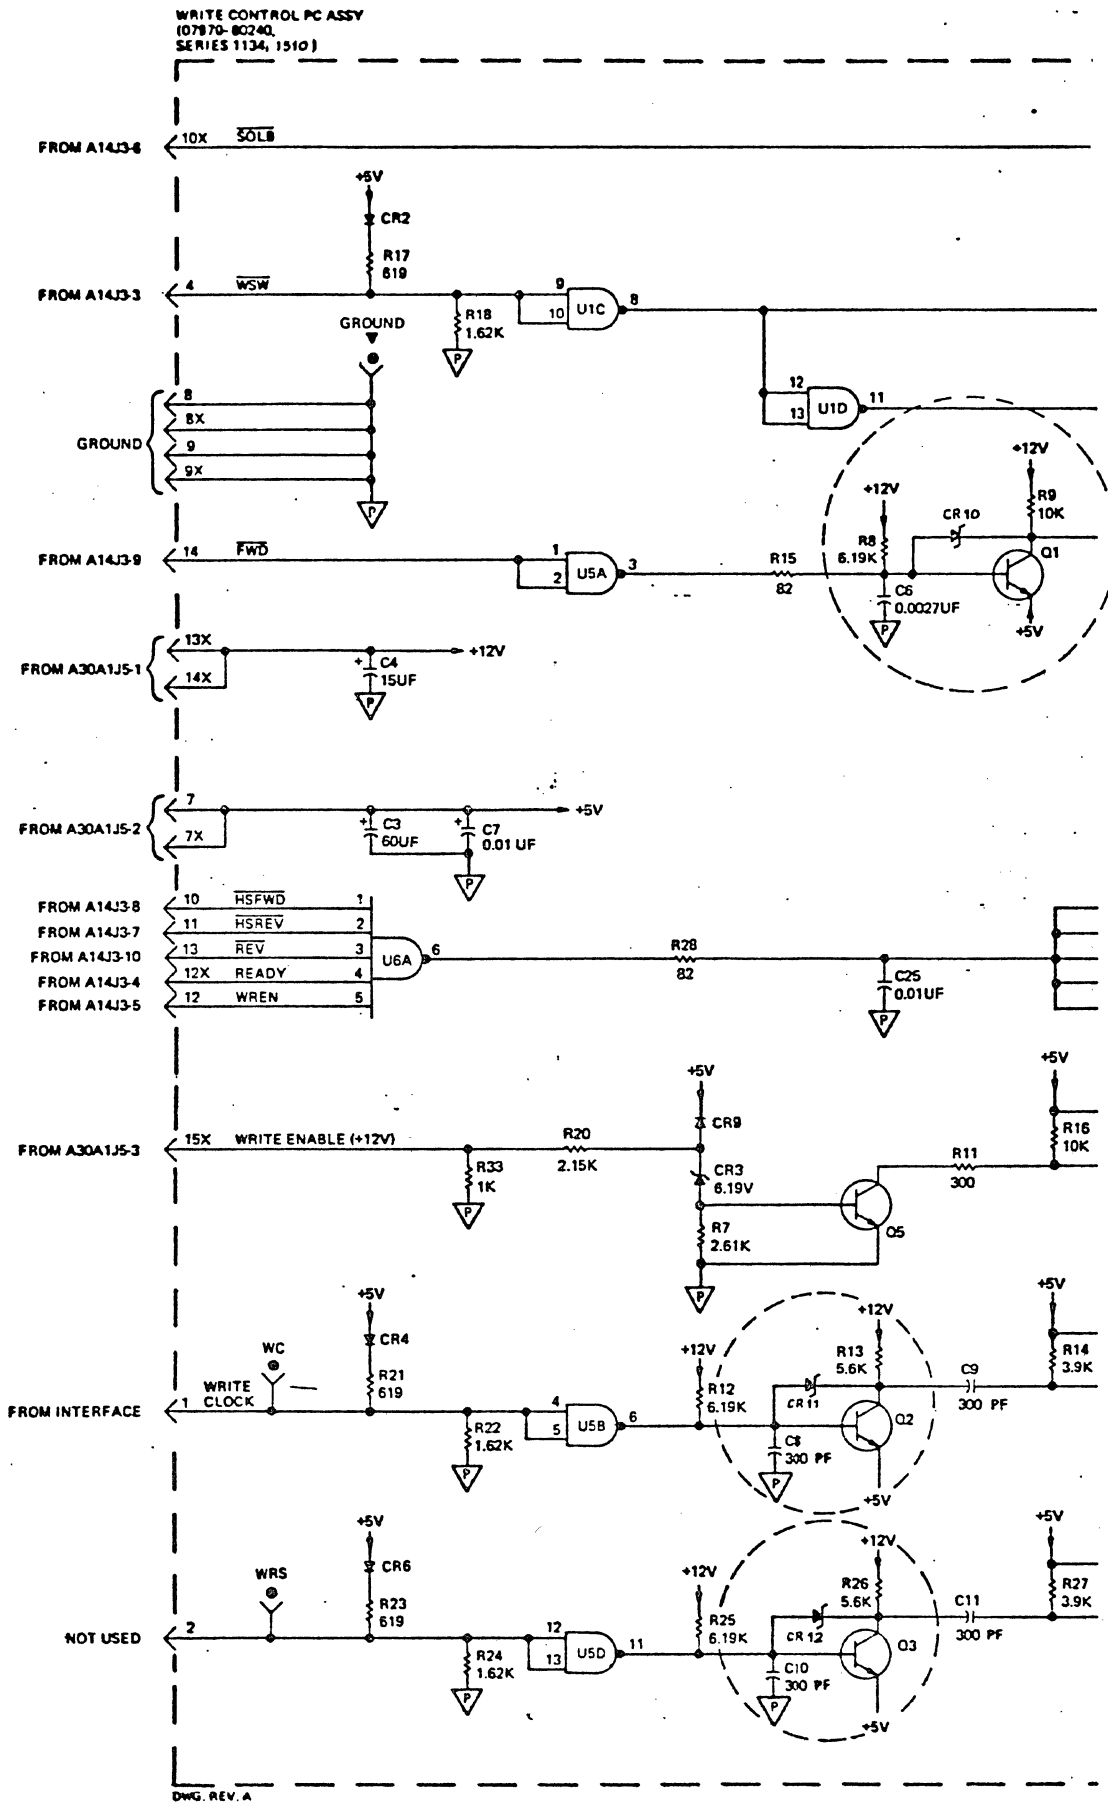

Figure 2.
- 4 Part 4, page 4-7, figure 4-5. Add diodes CR10, CR11, and CR12 as indicated in figure 2 of this change notice. Add series 1606 to the title block of this schematic.